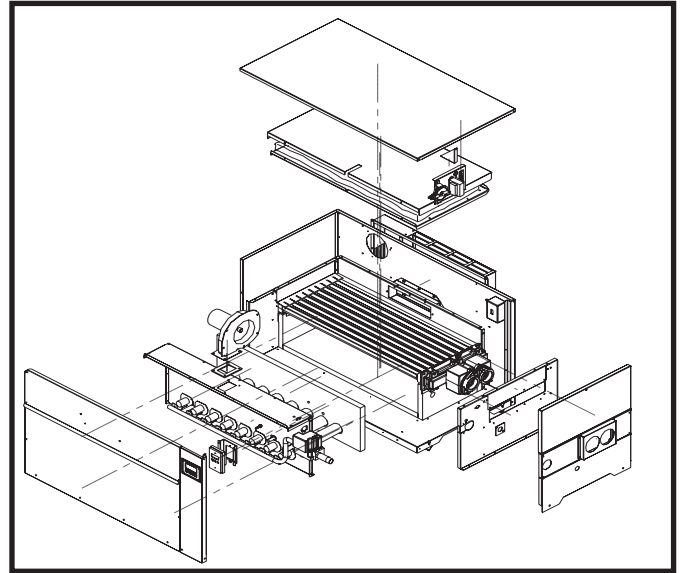

FIG. 50 Exploded View of Heater
- (e) Remove mounting screws from manifold mounting brackets. Rotate the manifold/orifice assembly up and away from burners (Figure 50).